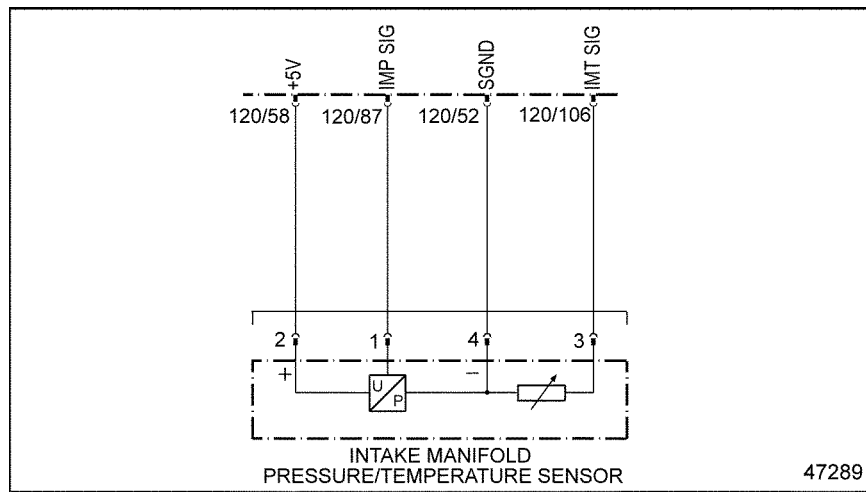

Figure 40-1 Intake Manifold Pressure/Temp Sensor Wiring
- [a] If the resistance is less than 5 Ω , repair the short between pins 52 and 106 of the 120-pin MCM connector. See Figure 40-1. Refer to section 40.2.1.1.
- [b] If the resistance is more than 5 Ω , repair the short to power on the circuit between pin 106 of the 120-pin MCM connector and pin 3 of the Intake Manifold Pressure/Temperature Sensor. See Figure 40-1. Refer to section 40.2.1.1.